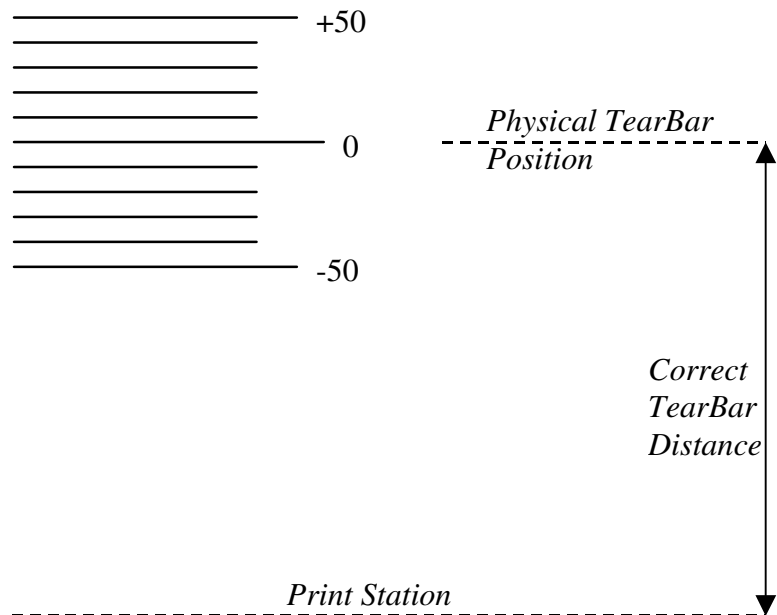

Figure 35. Correct Tear Bar Distance
9. Press **Enter** again to print a new scale. For correct tear bar distance, the zero should align with the tear bar. See Figure 35.